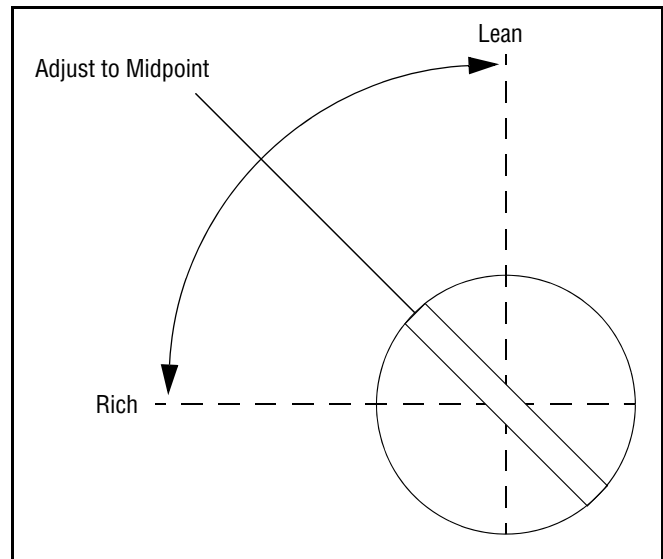

Figure 16
2. **Low Idle Fuel Screw Setting:** Place the throttle into the "idle" or "slow" position. Turn the low idle fuel mixture screw out (counterclockwise) from the preliminary setting until engine speed decreases (rich). Note the position of the screw. Now turn the mixture screw in (clockwise). The engine speed may increase, then it will decrease as the screw is turned in (lean). Note the position of the screw. Set the adjusting screw midway between the rich and lean settings. See Figure 16.